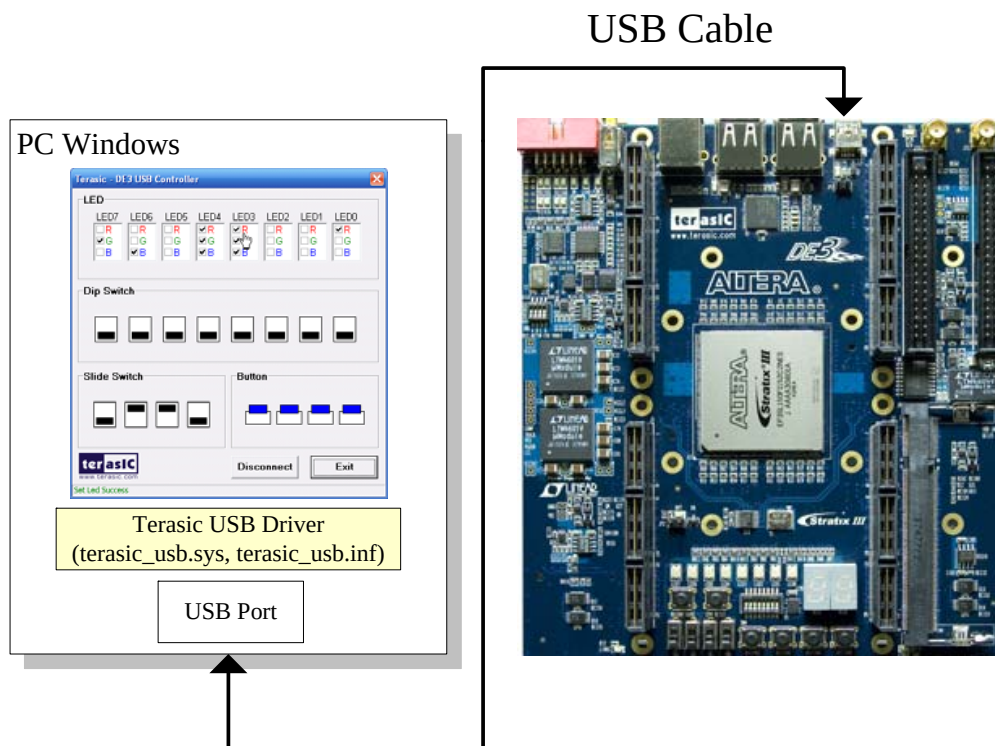

Figure 5.31. Connect USB ports for the USB-Device Demonstration.
- Connect USB cable from a host computer to the mini-AB port in DE3, as shown in Figure 5.31.